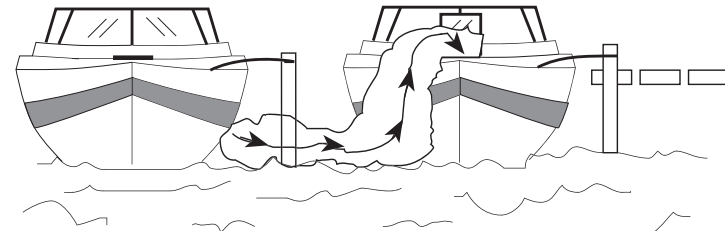

Figure 2.2 Exhaust Fumes from Vessel Alongside
**DANGER:** Generator or hull exhaust from other vessels alongside your boat, while docked or anchored, can emit carbon monoxide and cause excessive accumulation within the cabin and cockpit areas. Be alert for generator exhaust from other vessels alongside. (Figure 2.2)